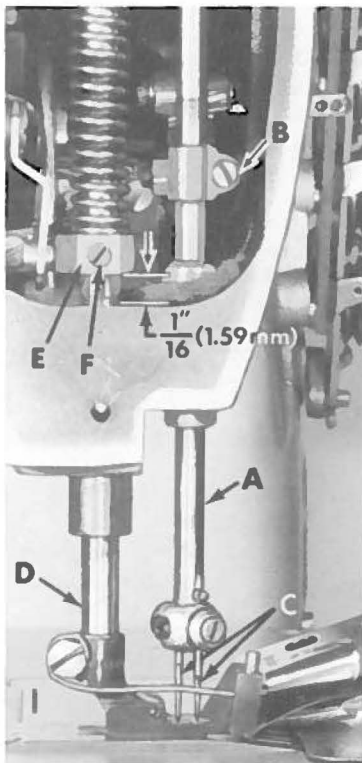
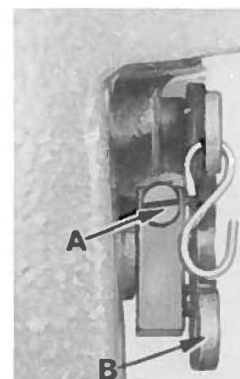

Fig. 3
Fig. 12
Align the needle bar (A, Fig. 3) with the proper test plate, using test pins No. PI40 A. See chart below. If test plate and test pins are not available, insert a new set of needles (Type and Size as required) and align the needle bar so that needles correspond with the vertical faces of the needle guard. To align needle bar, loosen needle bar clamp screw (B, Fig. 3) and turn bar as required. Tighten clamp screw.
The height of the needles (C, Fig. 3) are correct when the top of its eye is $3/64$ inch (1.19mm) below the underside of the looper, with the looper point flush with the left side of the needle. If adjustment is necessary, loosen screw (B) and move needle bar (A) up or down as required and retighten screw. Care should be taken not to disturb the alignment of the needle bar when moving the needle bar either up or down.
If adjustment is needed, loosen tension release lever screw (A, Fig. 12), located at the back of the machine and move tension disc separator as required. Retighten screw. After adjustment there should be no binding at any point.
The height of the presser bar (D, Fig. 3) is set correctly if it is possible to remove the presser foot when the foot lifter lever (B, Fig. 12) is fully depressed. Also there should be approximately 1/16 inch (1.59mm) clearance between lower surface of the presser bar connection and guide (E, Fig. 3) and the bottom surface of head opening in the bed when the foot lifter lever is released and the presser foot resting on the throat plate, with the feed dog down below the throat plate.
If adjustment is needed, turn handwheel in operating direction until the needle bar is in the low position. Loosen screw (F, Fig. 3). Then, while holding presser foot down on the throat plate surface, pry up presser bar connection and guide with a screw driver to obtain the 1/16 inch (1.59mm) setting and tighten screw. Check setting by turning handwheel so that needle bar is in its high position and see if presser foot can be removed as mentioned in previous paragraph.